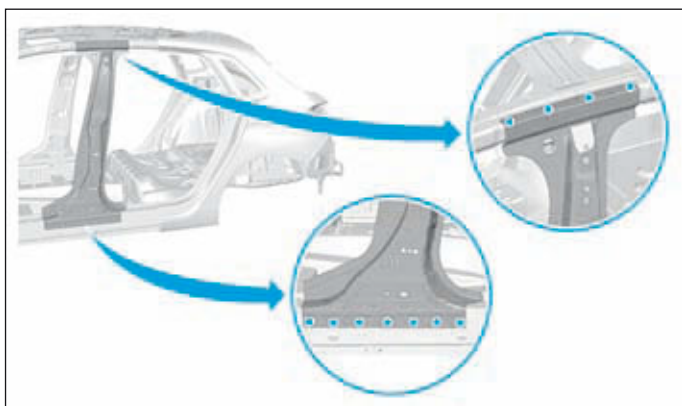

FIG.79
- points bouchons MAG (Fig.79),